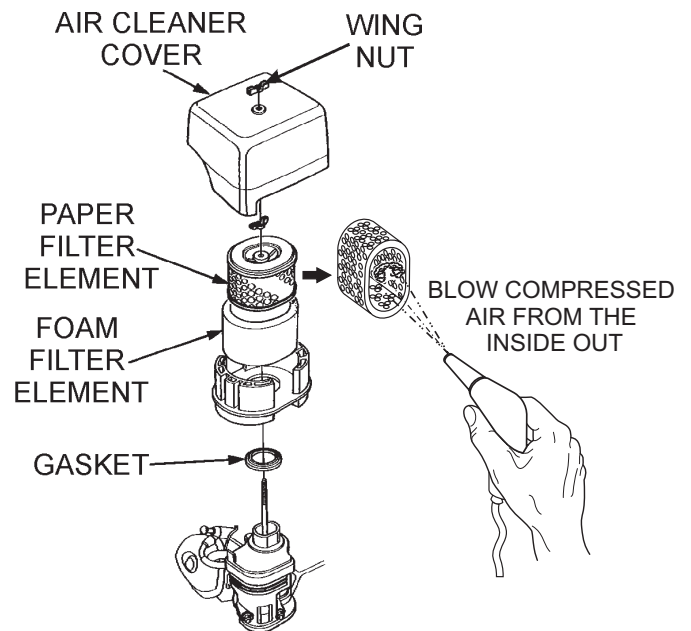

Figure 21. Engine Air Cleaner
1. Remove the air cleaner cover and foam filter element as shown in Figure 21.
2. Tap the paper filter element (See Figure 21) several times on a hard surface to remove dirt, or blow compressed air [not exceeding 30 psi (207 kPa, 2.1 kg/cm²)] through the filter element from the air cleaner case side. **NEVER** brush off dirt. Brushing will force dirt into the fibers. Replace the paper filter element if it is excessively dirty.